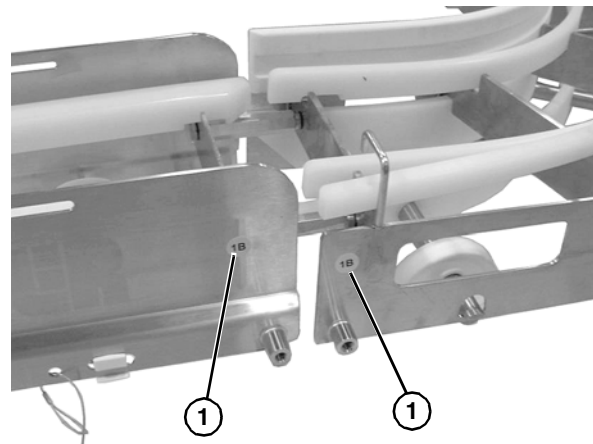

Figure 6
1. Locate and arrange conveyor sections by section labels (Figure 6, item 1).